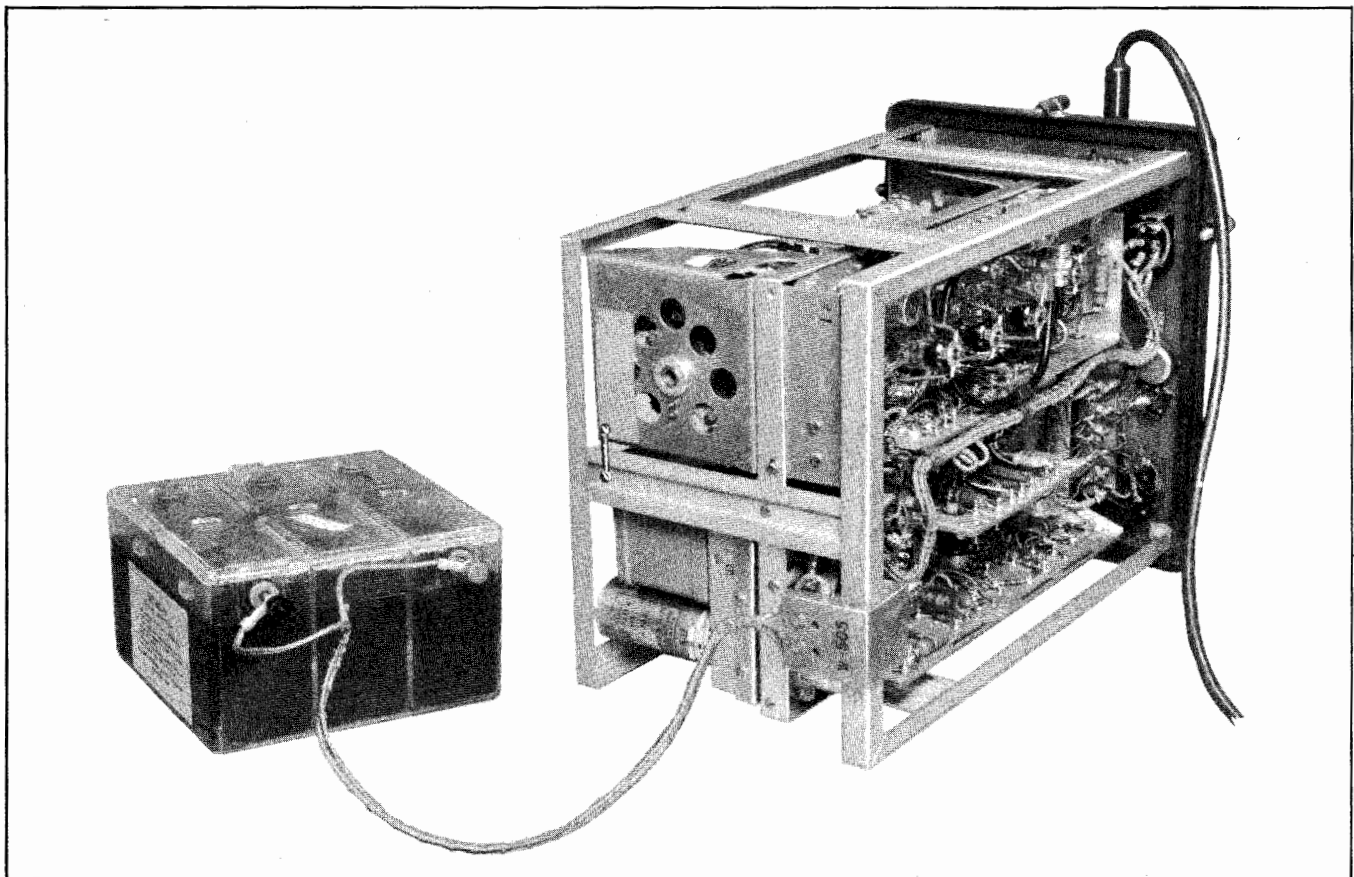

Figure 7-2.—Bench Test Setup.
*b.* Place the unit on a convenient workbench and connect a fully charged battery to the knife-blade terminals, as shown in figure 7-2. Special test cable W505, packed in the tool kit compartment at the right front of the Carrying Case, is used for interconnection. This cable is polarized to insure that the